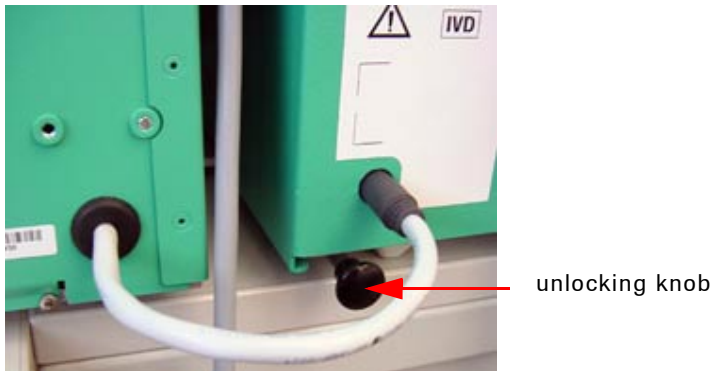

Fig. 41
- Pull the cable of the AutoQC module from the jack on the reverse side of the instrument (see Fig. 41).
- Unlock the AutoQC module by pulling the unlocking knob (see Fig. 41) on the reverse side of the instrument and remove the AutoQC module from the tracks on the Roche OMNI C.